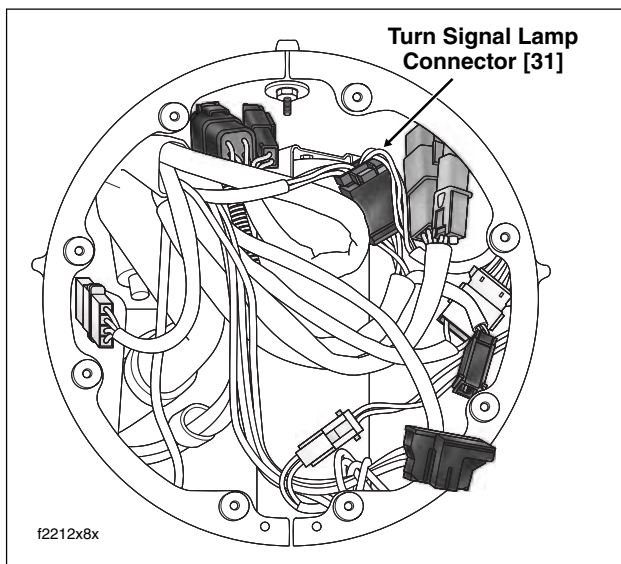

Figure 8-53. Headlamp Nacelle (FLHRC)
FLHR/C: Remove the Phillips screw at the bottom of the headlamp door (chrome ring). Remove the headlamp door. Remove the eight Phillips screws to free the headlamp housing from the headlamp nacelle. Squeeze the two external tabs (if present) to remove the wire connector at the back of the headlamp bulb. Remove the headlamp housing assembly from the vehicle. Locate the front turn signal lamp connector (black 6-place Multilock) anchored in hole of fork stem nut lock plate (left side). See Figure 8-53.
FLHR/C: Install anchor on connector into hole of fork stem nut lock plate (left side). See Figure 8-53. Install wire connector at the back of the headlamp bulb. Align holes in headlamp housing with those in headlamp nacelle. Install eight Phillips screws. Install the headlamp door (chrome ring) and door screw.
2. Inside headlamp nacelle, locate the front turn signal lamp connector (black 6-place Multilock) anchored in hole of fork stem nut lock plate (left side). See Figure 8-53.